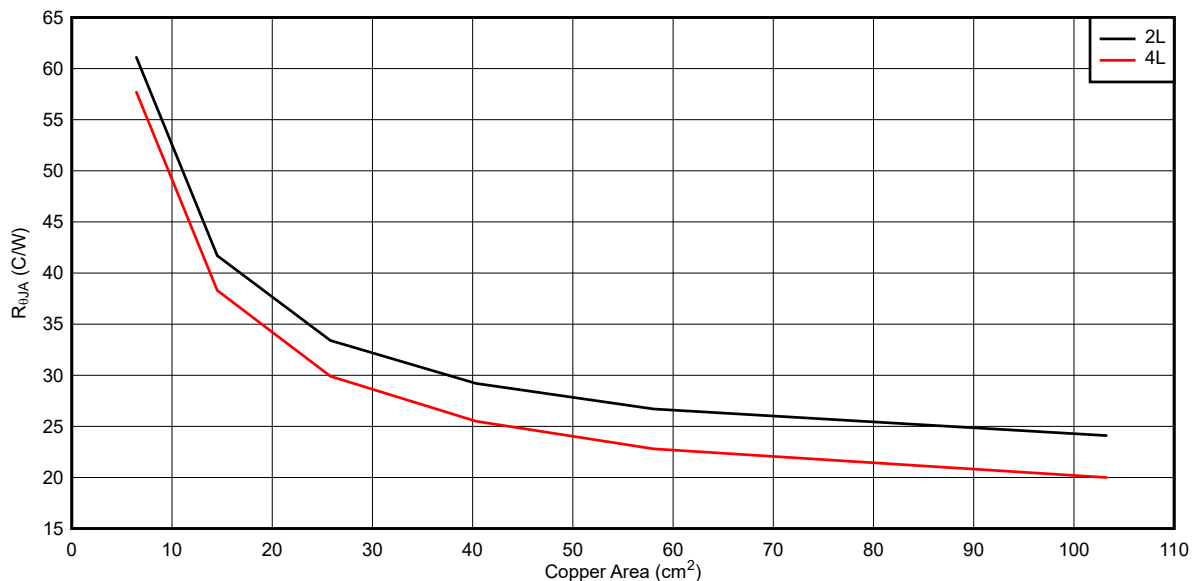

Figure 9-15. Typical $R_{\theta JA}$ vs Copper Area
The LM5012-Q1 features a die attach paddle, or "thermal pad" (EP), to provide a place to solder down to the PCB heat-sinking copper. This provides a good heat conduction path from the regulator junction to the heat sink and must be properly soldered to the PCB heat sink copper. Typical examples of can be found in Figure 9-15. The copper area given in the graph is for each layer. The top and bottom layers are 2-oz copper each, while the inner layers are 1 oz. Remember that the data given in the graph is for illustration purposes only, and the actual performance in any given application depends on all of the previously mentioned factors.